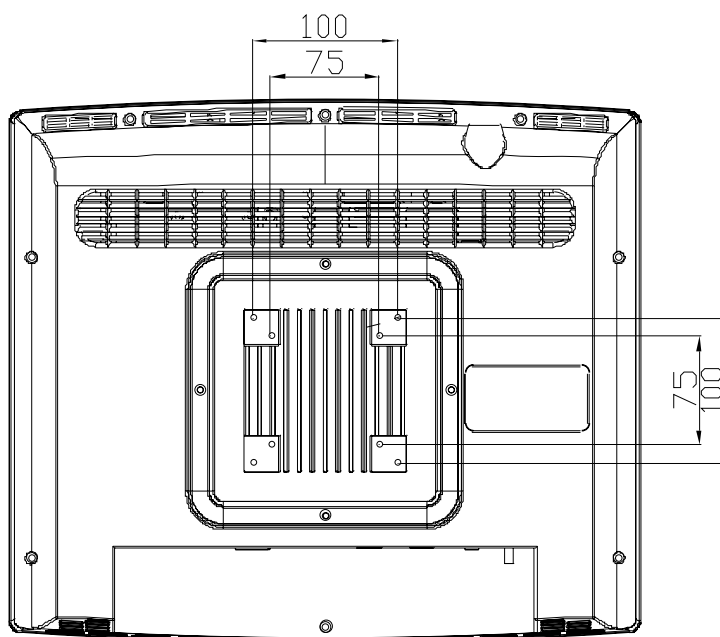

Figure 2.3 Rear view of the point of care terminal
When you turn the Point-of-Care terminal around and look at its rear cover, the sunken white dot section is at the bottom of the panel PC, as shown in Figure 2.3. (The I/O section includes white dot ports, including serial ports, DVI port, the Ethernet port, USB ports, the DC power adapter jack, and so on.)
1. Connect the female end of the power adapter to the DC jack of the panel PC. (See Figure 2.3.)